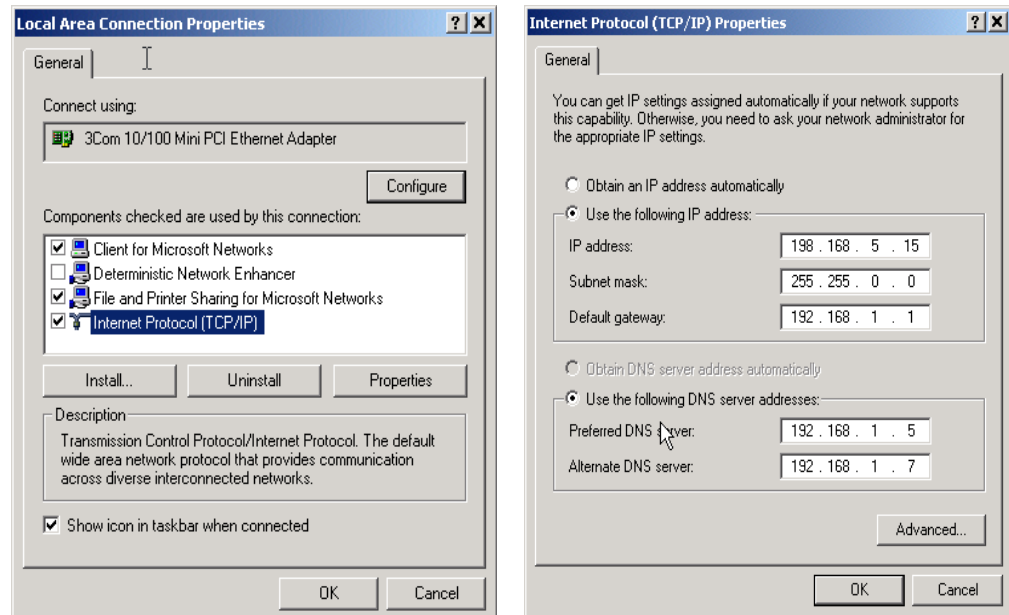

Figure 3-1 Windows 2000 IP Address Setting
4. Ensure that the computer has a fixed IP address, and not one set by a DHCP server. Figure 3-1 gives an example of setting a fixed IP address on Windows 2000; be sure to select **Use the following IP address**. It does not matter what IP address, network mask, and gateway are used.